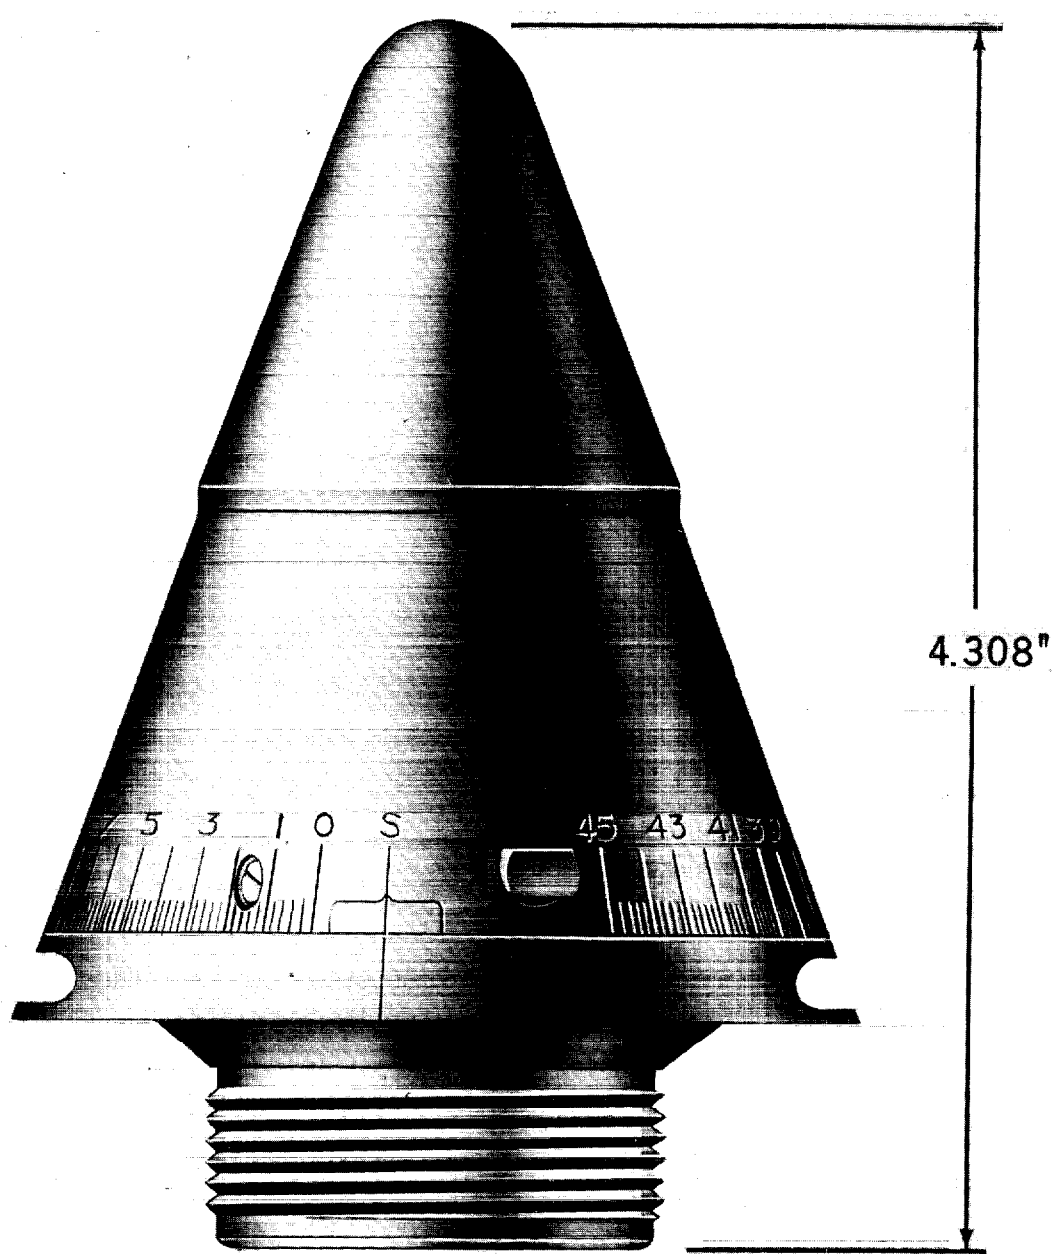

Figure 3-3. Mechanical Time Fuze Mk 50 Mod 8, External View
e. Mod 8, figure 3-3, is similar to Mod 7 except that the firing arm is hardened and a slider-type release, figure 3-4, replaces the safety lever on the escapement lever. The slider-type release operates in the following manner. When the setback pin is moved aft on acceleration of the projectile, the safety lever may then move outboard under the impetus of centrifugal force. The safety lever spring holds the safety lever inboard until centrifugal force overcomes the spring. When the safety lever moves outboard, the pin on the underside of the safety lever moves clear of the escapement lever. The escapement lever is then free to start its oscillation.